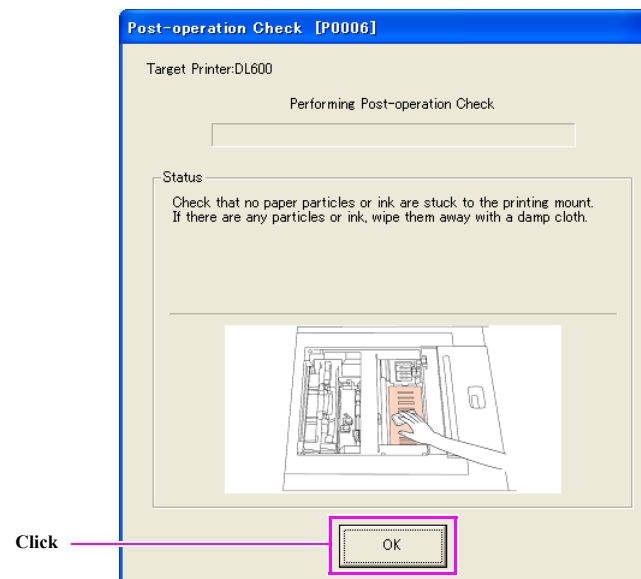

Figure 3-70. Shutting down Screen (1)
5. Click [OK]. (See Figure 3-70)